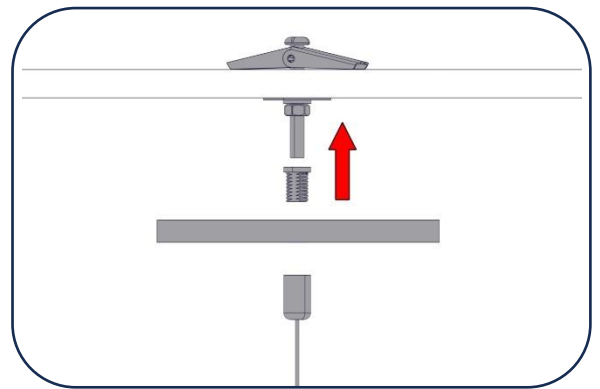

Figure 9
19. Install the Toggle Bolt Assemblies to the ceiling with the remaining Threaded Inserts removed in step 19. [Figure 9]
- Secure a Canopy B to each pre-installed Threaded Insert with the Threaded Base of the Cable Support for each additional mounting point. [Figure 9]